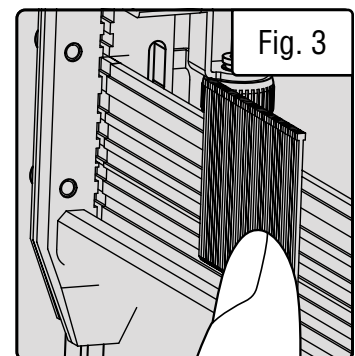

Fig. 3
- **Loading nails:** Place a clip of nails into the grooves of the fixed magazine, with the nail tips pointing downwards. Make sure the nail tips are against the bottom of the magazine, and the nail heads rest on the appropriate groove of the fixed magazine track (Fig. 3).
Air is released through the air exhaust cap during operation. Rotate the adjustable cap (Fig. 3 - 1) to direct the released air in your preferred direction, away from you and your workpiece.